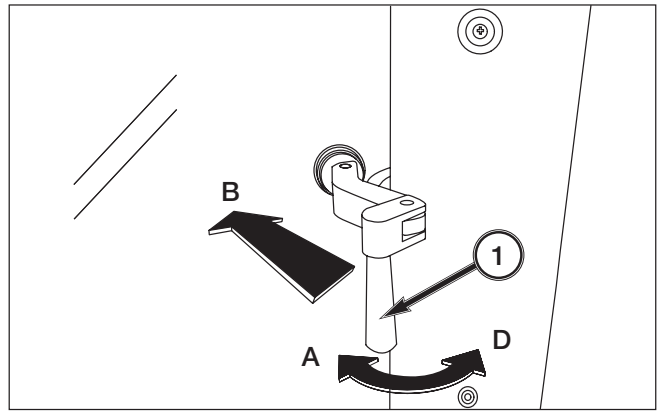

FIG. 5-100
FIGS. 5-100,101: Pull the handle (1) to unlock the window (Position A). Push the handle away from you (Position B) to secure the window in the open position (Position B).